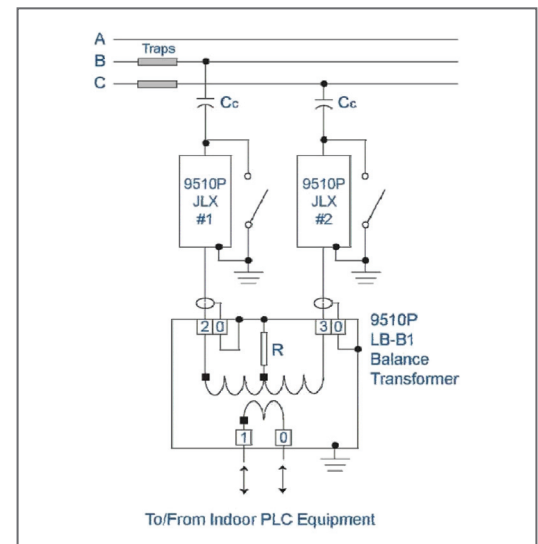

Figure 1 - Outdoor equipment schematic diagram
A set of three (3) units are required for phase-to phase coupling. Each set consists of two (2) type JLX filter units and one (1) type LB-BI balance transformer unit. See Figure 1.